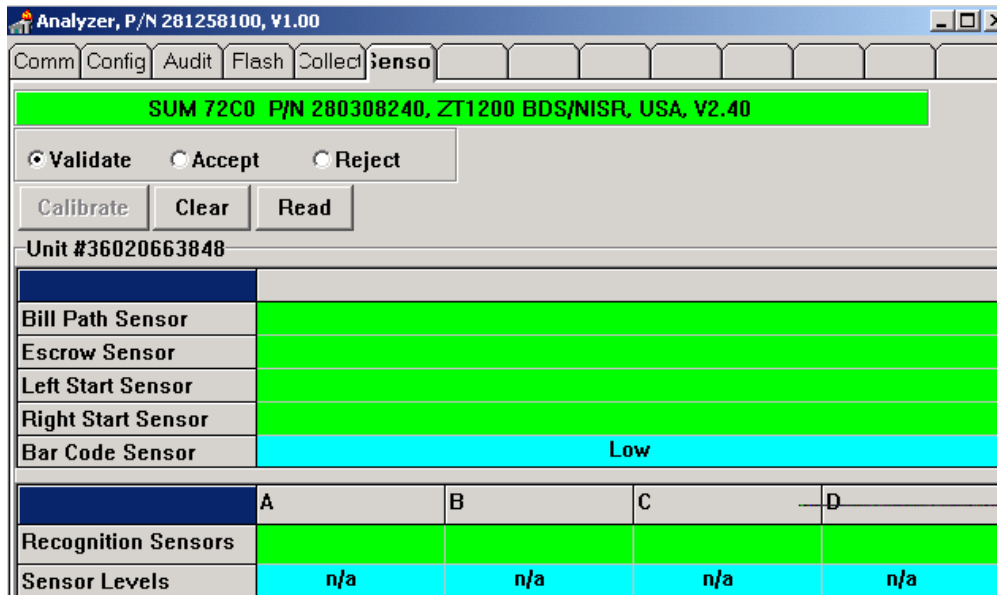

fig.2
- 2) Click on the “read” button. your screen should resemble fig.2. The sensor readings should all be green.